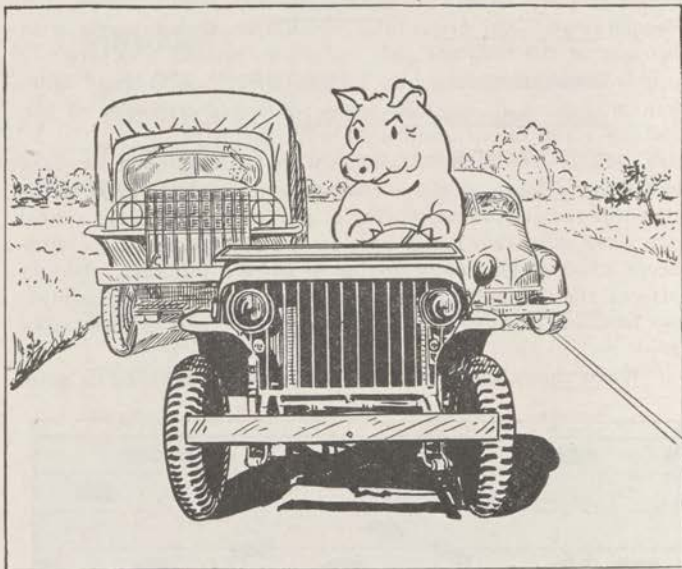

FIGURE 18.—Don't hog the road.
40. DON'T HOG THE ROAD.—Sometimes a road is too narrow for two vehicles to pass easily. When this is true, a driver trying to pass you may go into the ditch or strike a pole unless you give him extra room. Don't hog the road. (See fig. 18.) If a man from the front approaches, or a man from the rear